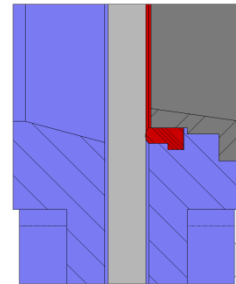

fig. 6
- **Seat 2:** Metal / rubber seal (fig. 6). This type of seat includes a resilient seal which is fixed to the inside of the body by way of a reinforced ring with two functions (to protect the valve from abrasion and to clean the gate when working with solids that can stick to the gate); this ring can be removed and easily replaced.